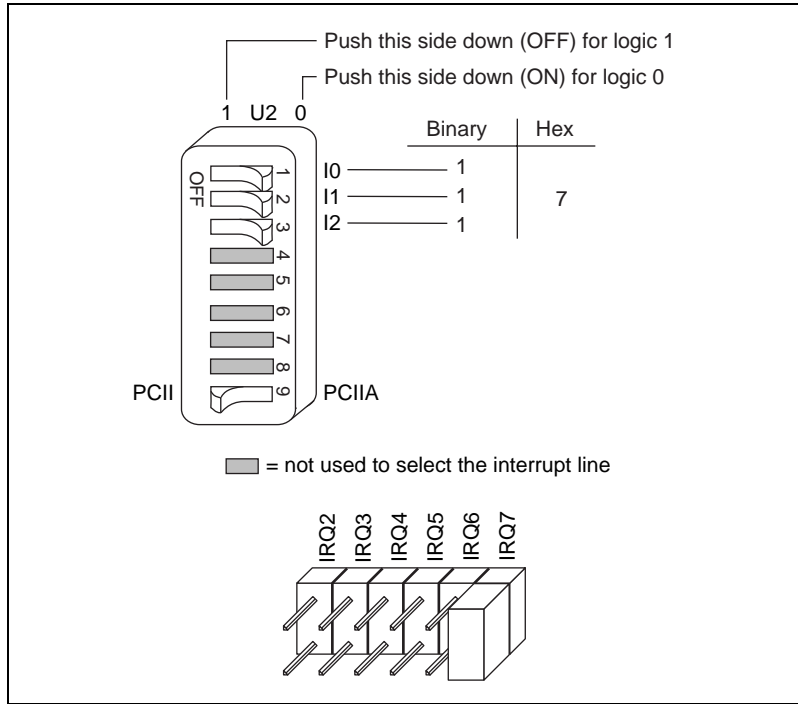

Figure B-3. Default Interrupt Jumper Setting for GPIB-PCIIA Mode
2. Change the jumper settings to configure the GPIB-PCII/IIA to the new interrupt request line. Figure B-3 shows the switch and jumper settings for the default interrupt setting, IRQ7, and shows how the interrupt setting was calculated from the switch positions.